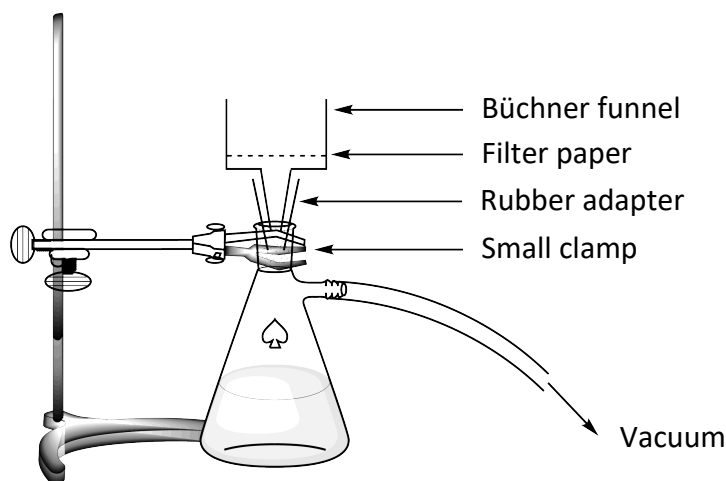

Figure 2. Setup for the vacuum filtration
7. **Set up** a vacuum filtration apparatus (see Figure 2) using a Büchner funnel, a filter paper and a Büchner flask, that is secured to the retort stand with a small clamp. **Raise** your HELP card. A lab assistant will come and show you how to connect the Büchner flask to the vacuum source.